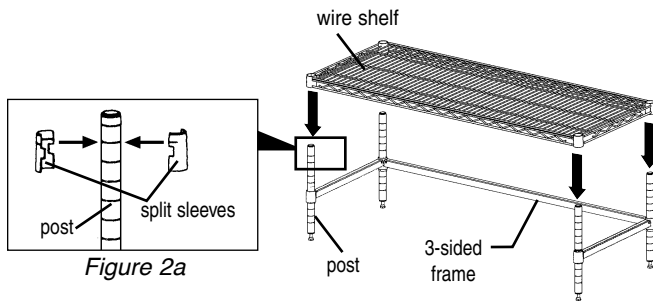

Figure 2c
- Securely seat wire shelf using a board and hammer at each corner (see Figure 2c).